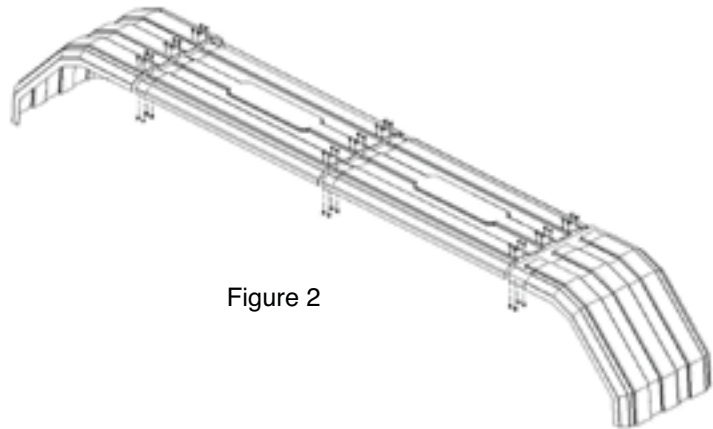

Figure 2
- Using the 1/4" x 3/4" long Phillips truss head bolts, attach the fenders together. Tighten down the bolts using the supplied lock nuts. **DO NOT OVERTIGHTEN** the bolts. Start from the center and work towards the outside. See Figure 2.